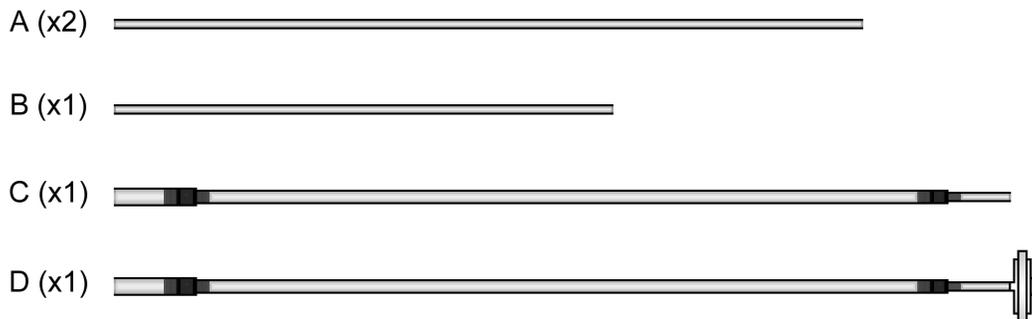
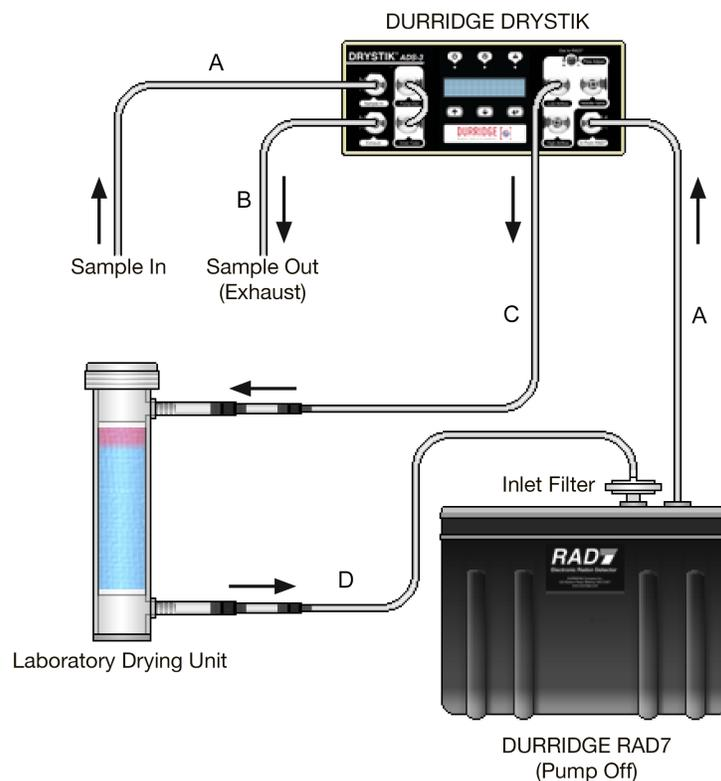

Figure 1 Tubing included with DRYSTIK
Figure 8 Basic setup for monitoring radon in air
- Tubing Set consisting of the following sections (See Figure 1; tubing usage shown in Figure 8)